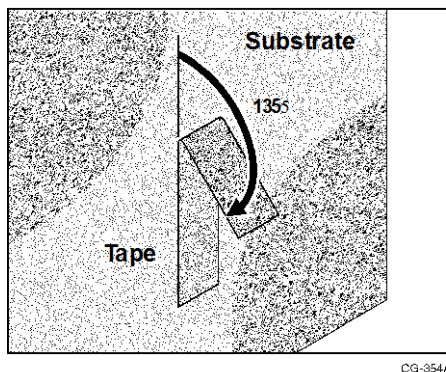

Figure 1. Pull Off Tape at a 135° Angle
3. Remove only as much liner as required for your application method. The procedure for removing the liner, whether just a small section, or the entire liner is to pull it away from the graphic at a 180 degree angle with a smooth continuous motion. See Figure 1.
2. Remove the tape by pulling it back upon itself at a 135° angle using a rapid, firm pull. See Figure 1.